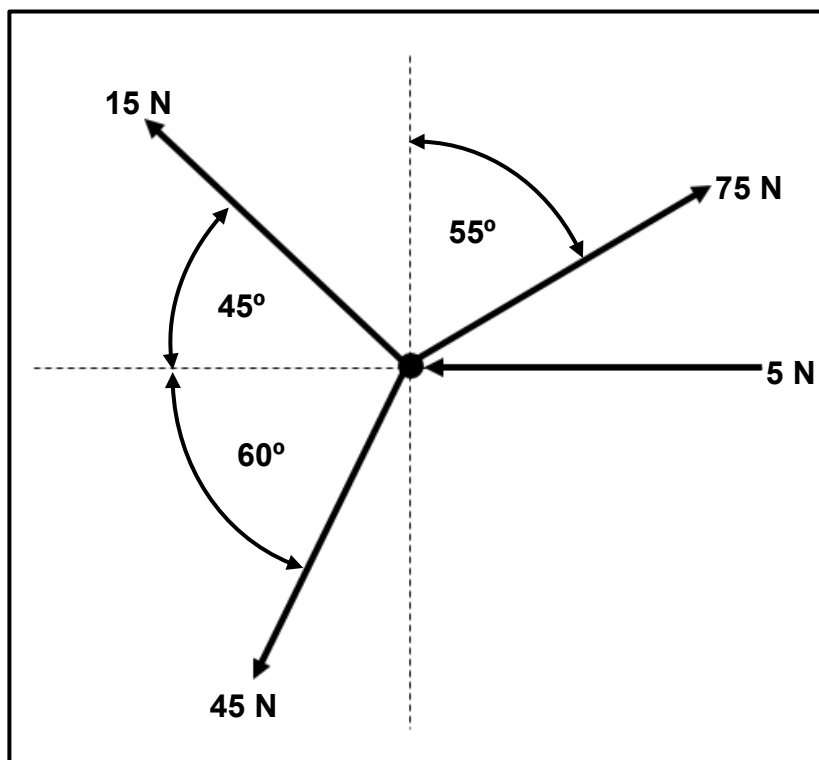

FIGURE 8.1
- 8.1 FIGURE 8.1 below shows a system of forces with THREE pulling forces and ONE pushing force acting on the same point.
**HINT:** Draw and complete the diagram in FIGURE 8.1. Show ALL the horizontal and vertical components before you do the calculation.